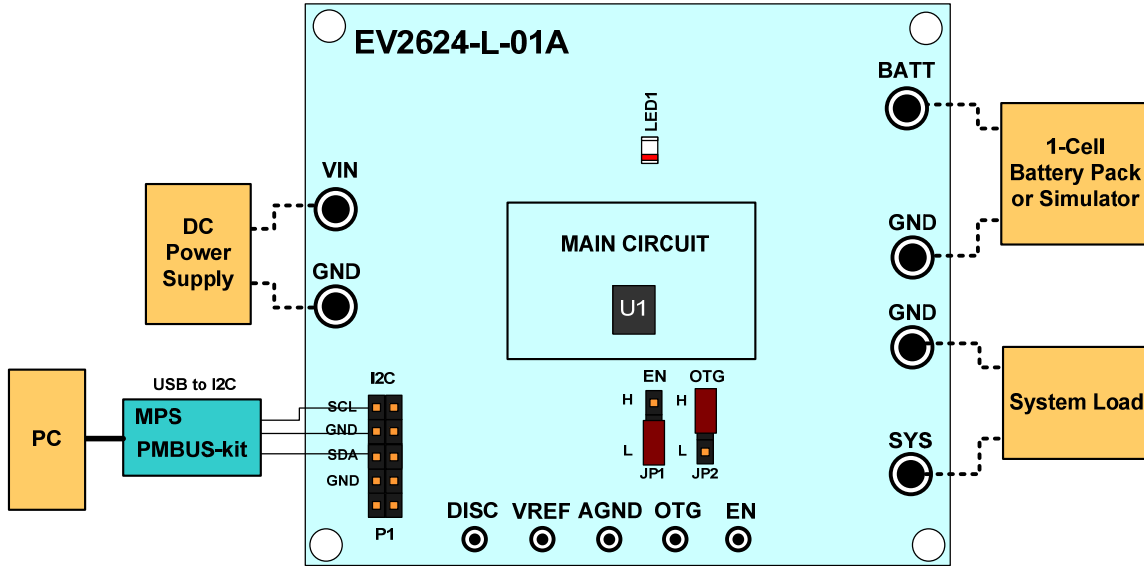

Figure 1: Test Setup for MP2624
4) Original Test Setup for MP2624 in Figure 1